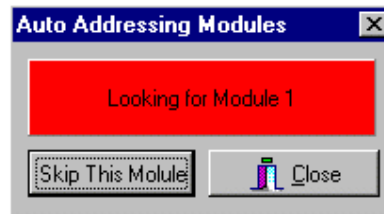

Fig. 48
5) Click Auto Address Modules with your left mouse button. The following window will appear (fig 48):